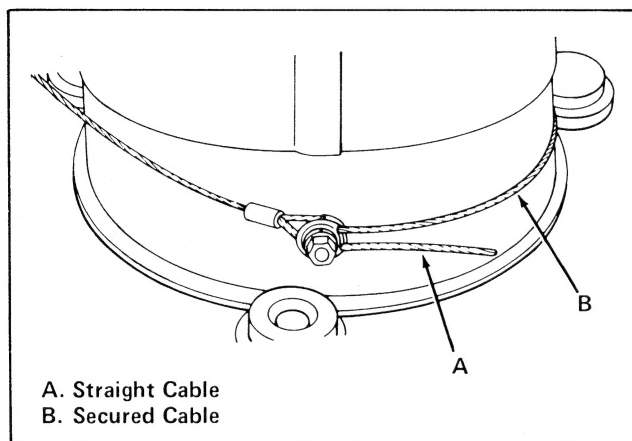

Figure 19. Secure Cable
11. Take excess straight cable (item A, figure 19) and tape it to the secured cable (item B) attached to stud.